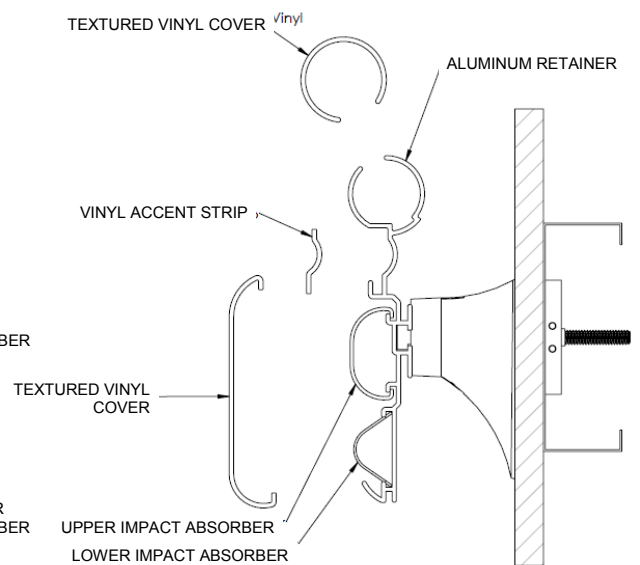

Figure 8
**STEP 11.** Place the accent strip in the finger groove of the aluminum retainer, ID mark down (See Figure 8, below). Snap the handgrip cover into place on the retainer, then snap the lower vinyl cover into place by hooking the upper leg first, then pushing downward snap the lower hook into position.